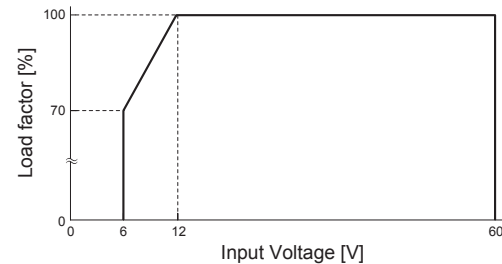

Fig.9.2 Input voltage derating curve
■ MGXS1R5, MGXW1R5, MGXS6 and MGXW6 has derating by input voltage is required shown Fig.9.2.